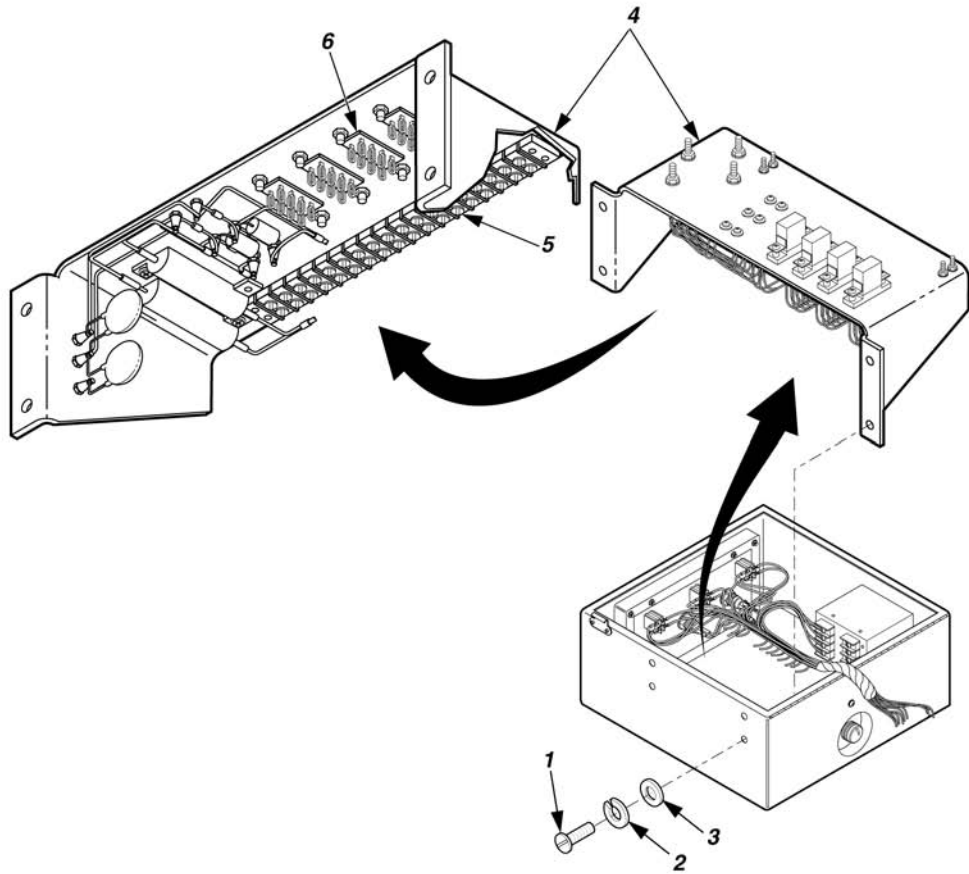

Figure 5-14. Relay Board Harness Assembly W11 Removal.
1. Remove four screws (1, figure 5-14), lock washers (2), and flat washers (3), and invert relay board assembly (4).